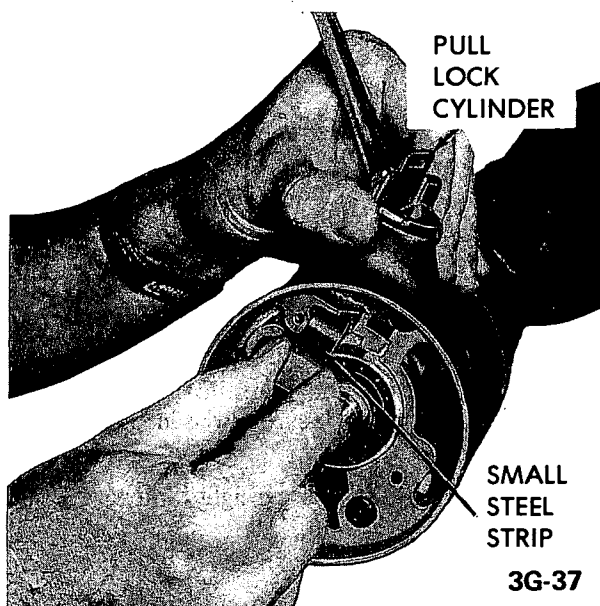

Figure 3G-103 - Signal Switch Wire Protector
7. Depress lock plate using tool J-23653 and the steering wheel nut. Pry the round wire snap ring out of the shaft groove and discard ring. Remove the shaft lock plate. See Figure 3G-76.